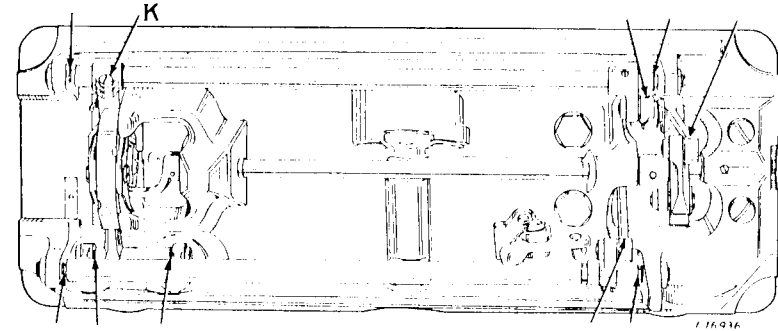

Fig. 4. Oiling Points in Base of Machine
Remove the face plate and oil all the oiling points inside. Turn the machine back on its hinges and apply oil at the places shown by unlettered arrows in Fig. 4.
The feed rock shaft crank should be set so that when it raises the feed bar to its highest position, slightly less than the full depth of the teeth project through the slots in the throat plate. To raise or lower the feed dog, loosen the clamping screw (K, Fig. 4, Page 5) and move the feed lifting rock shaft crank until the feed dog is set at the required height, then securely tighten the clamping screw (K).